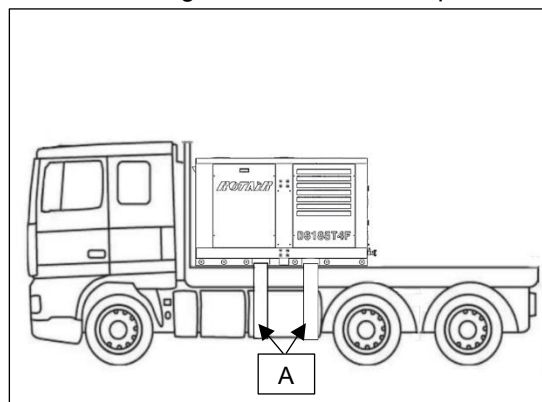

Figure 6.1.1 Instruction for towing in safe conditions
- 1) Secure the unit near the cab of the transport vehicle as in Figure 6.1.1.